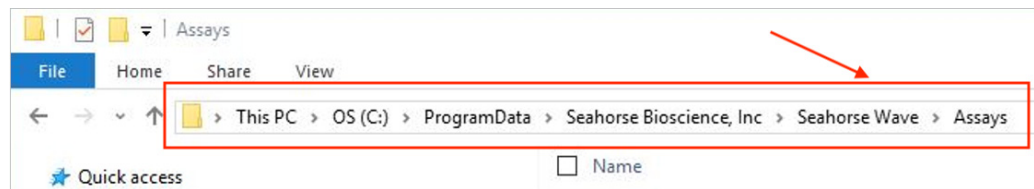

Figure 3. The assay results files location (C:\ProgramData\Seahorse Bioscience, Inc\Seahorse Wave\Assays).
- 6 Go to: C:\ProgramData\Seahorse Bioscience, Inc\Seahorse Wave\Assays (**Figure 3**) and copy all assay result files to your external storage device.